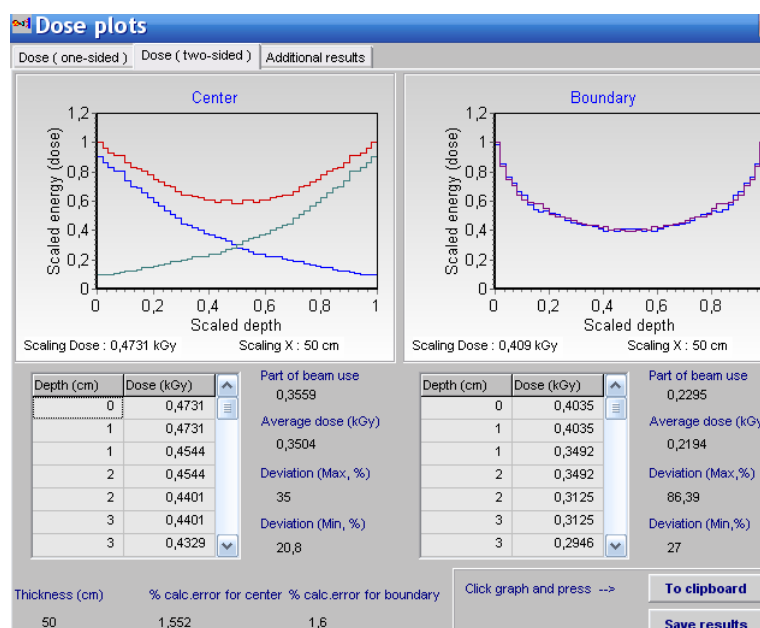

Fig.5.1. 2D view of the absorbed dose distributions under two-sided irradiated target with package in graphical and tabular forms.
- **Select** "**2D graphing**" - The form "**Dose plots**" after MC simulation will be opened (see Fig.5.1.).
- Click the button "Additional results" in the form "Dose distributions after MC simulation" (see Fig.5.1).